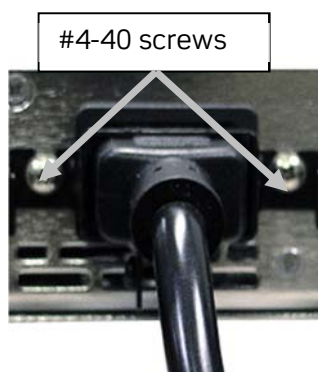

Figure 14 - Securing the Bracket to the Shelf
2. After plugging the cords into the shelf, secure the brackets to the shelf with #4-40 screws provided as shown in Figure 14.